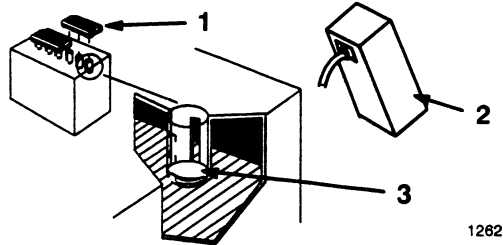

Figure 9
5. Slowly pour electrolyte into each cell until the level is once again up to "UPPER" line on the battery case (Fig. 9), then install the filler caps.